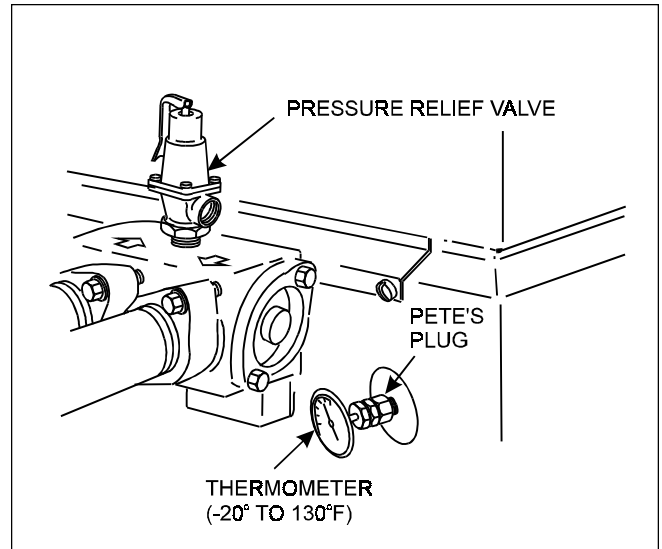

Figure 17. Thermometer and pressure relief valve.
To install a pressure relief valve, remove the 3/4 inch (19 mm) brass plug located on the top of the inlet/outlet header (see Figure 17). Install the pressure relief valve in the threaded hole from which the plug was removed. The pressure rating of the valve should be at or below the lowest working pressure of any component in the filter system. Any pressure relief valve installed must comply with provisions of the Standard described in ANSI Z21.22 for the United States, or CAN1-4.6 in Canada.
4. Remove the drain plug located on the inlet/outlet header of the heater and replace it with a Pete's plug (see Figure 17).
5. Insert a pocket thermometer (see Figure 17) through the Pete's plug into the header.
3. Insert a pocket thermometer (see Figure 17) through the Pete's plug into the header.
5. Turn rotary switch (LD) or the rocker switch (LG) on the temperature control to the OFF position.